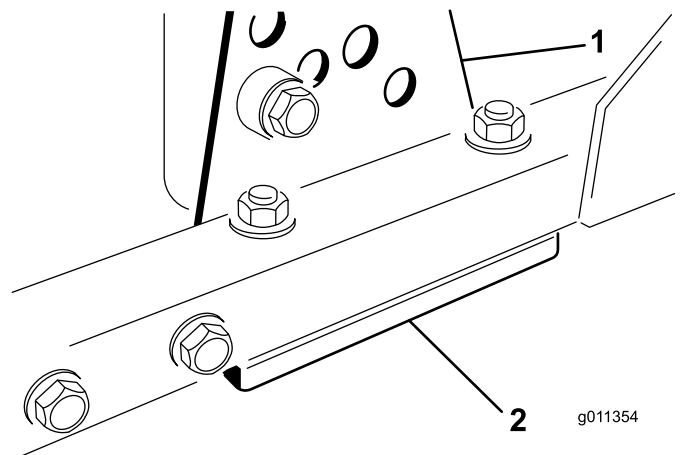

Figure 74
1. Remove the height-of-cut bracket, (front, left, or right) from the deck frame (Figure 74).
2. Adjust 1.5 mm (0.060 inch) shims and/or 0.7 mm (0.030 inch) shims between the deck frame and bracket to achieve the desired height setting (Figure 74).